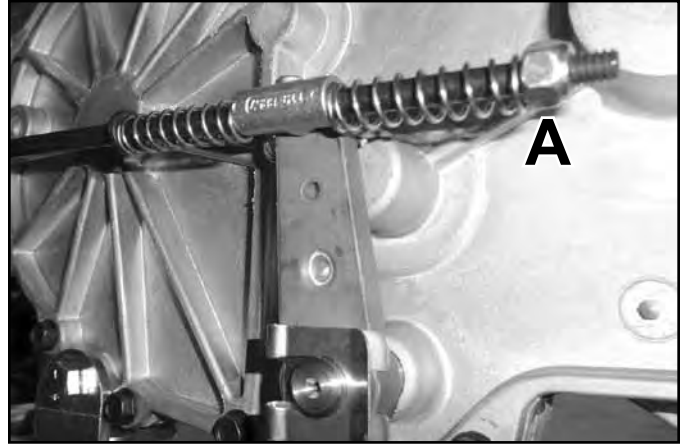

Fig. 061
All TimeCutter MX 50” models only – Remove the nut (A) and the spring. Remove the brake rod from the unit (Fig. 061).